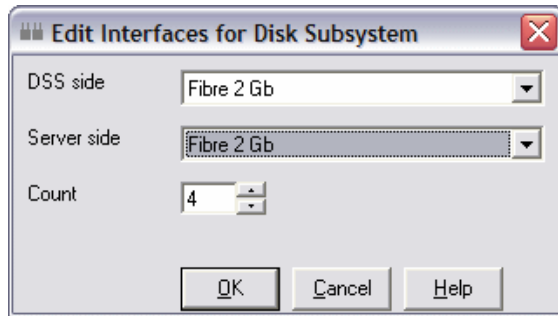

Figure 4-81 Planned DS ports
- d. The Edit Interfaces for Disk Subsystem window (Figure 4-81) opens. Enter the planned number and type of DS host ports. In our example, the customer plans on four DS ports and four adapters with feature number 2787 in the System i5 model. Therefore, we leave the default value for Count. However, for Server side, we change the type to **Fibre 2 Gb**. Click **OK**.